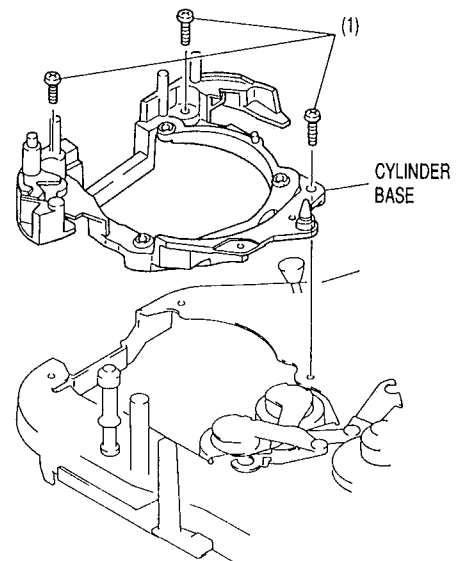

Fig. 3-24
- 1) Remove 3 screws (1). (See Fig. 3-24)